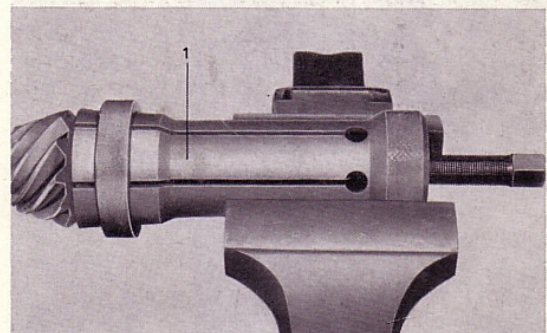

Fig. 31. Removing rear pinion bearing
11. If necessary, pull off the rear bearing from the pinion with puller SVO 2164 for the Spicer 23 final drives and SVO 2392 for the other types, see Fig. 31.